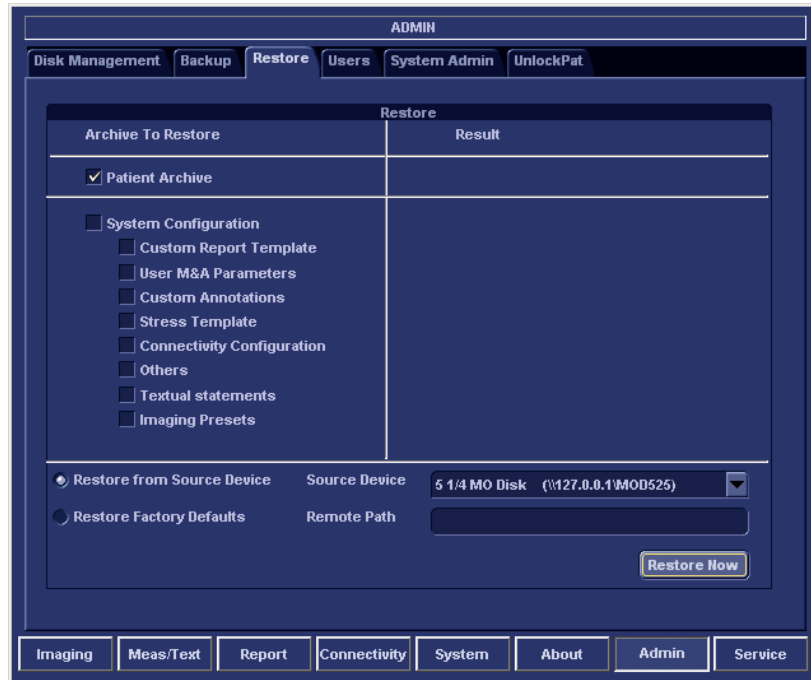

Figure 8-32 The Restore tab
- One or several system configuration items to restore parts of the system settings and user presets, see Figure 8-32 "The Restore tab" on page 8-37.